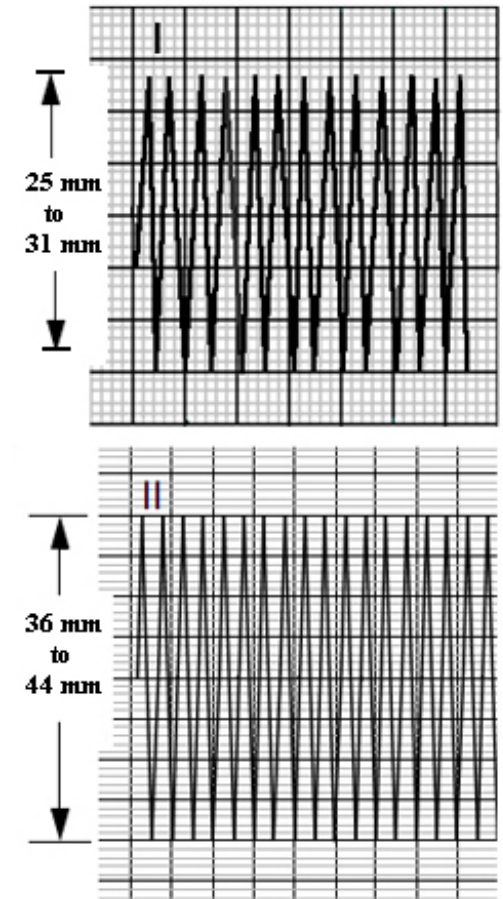

Figure 5.38—Signal amplitude for 2-lead gain test
4. Print five seconds of ECG Lead I and confirm the printed signal amplitude is 25 mm to 31 mm, peak-to-peak, as shown in Figure 5.38.
6. Print five seconds of ECG Lead II and confirm the printed signal amplitude is 36 mm to 44 mm, peak-to-peak, as shown in Figure 5.38.